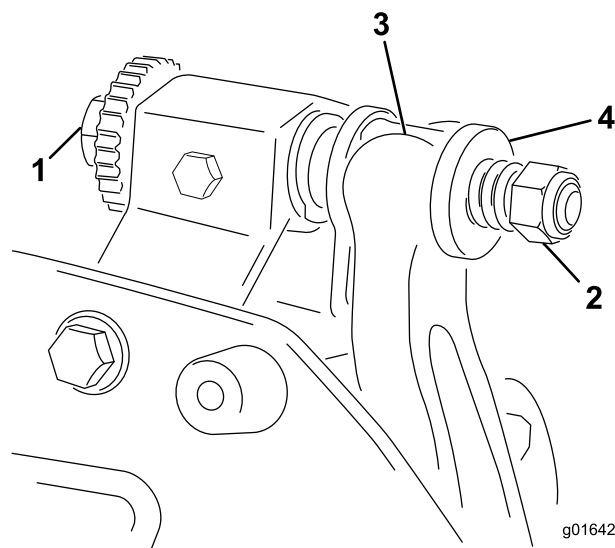

Figure 17
1. Turn the bedbar adjusting screw, counterclockwise, to back the bedknife away from the reel (Figure 17).
2. Back out the spring-tension nut until the washer is no longer tensioned against the bedbar (Figure 17).
1. Install the bedbar/bedknife assembly, positioning the mounting ears between the washers and the bedbar-adjusting screw (Figure 17).